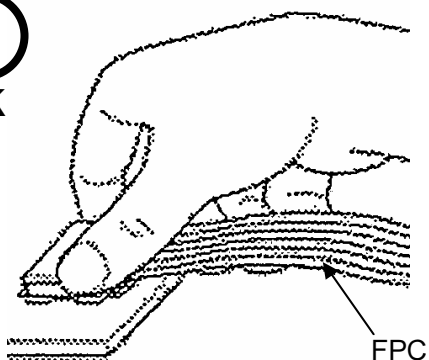

Fig9
2. 抜去の際は補強基板を持って行ってください (Fig9,10)
2. In case you remove, please carry out with a reinforcement board. (Fig9,10)